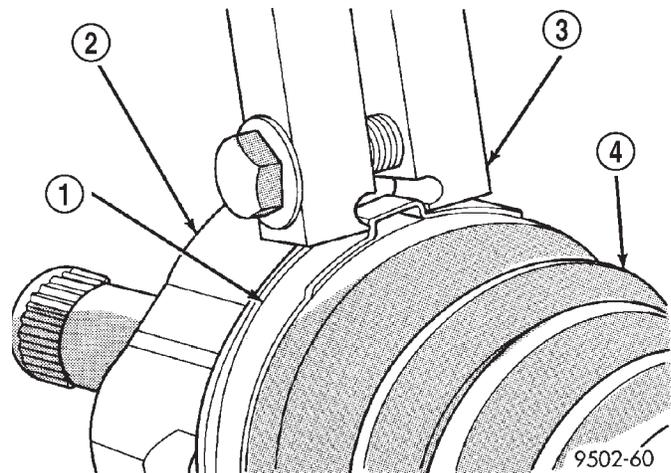
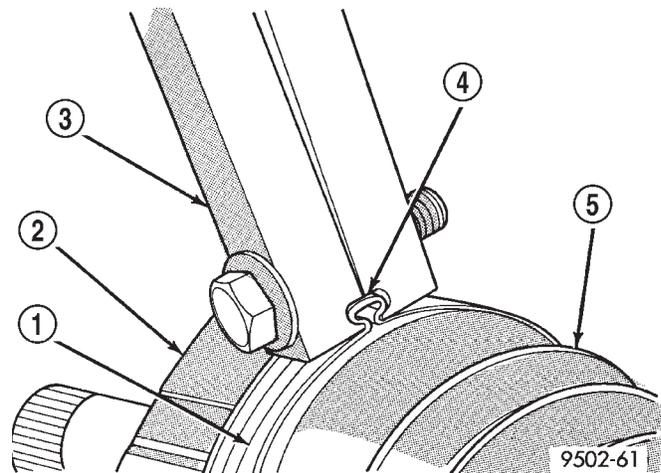

Fig. 44 Crimping Tool Installed on Sealing Boot Clamp
Fig. 45 Sealing Boot Retaining Clamp Installed
(8) Position outer C/V joint sealing boot into its retaining groove on outer C/V joint housing. Install sealing boot to outer C/V joint retaining clamp evenly on sealing boot.
(9) Clamp sealing boot onto outer C/V joint housing using Crimper, Special Tool C-4975-A and the following procedure. Place crimping tool C-4975-A over bridge of clamp (Fig. 44). Tighten nut on crimping tool C-4975-A until jaws on tool are closed completely together, face to face (Fig. 45).
(10) Install the driveshaft requiring boot replacement back on the vehicle. See Driveshaft Removal and Installation in this section for the required driveshaft installation procedure.